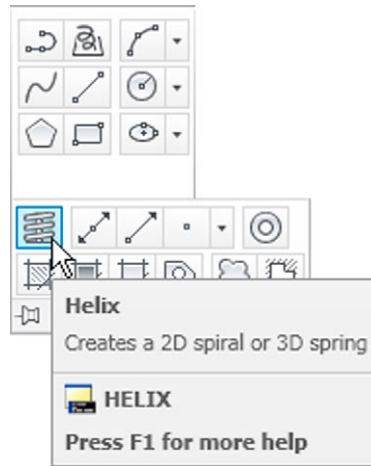

Fig. 14.29 The Helix tool in the Home/Draw panel
1. Click the **Helix** tool icon in the **Home/Draw** panel (Fig. 14.29). The first of the **DYN** prompts appears. Enter the following at the command line using the down key of the keyboard when necessary.